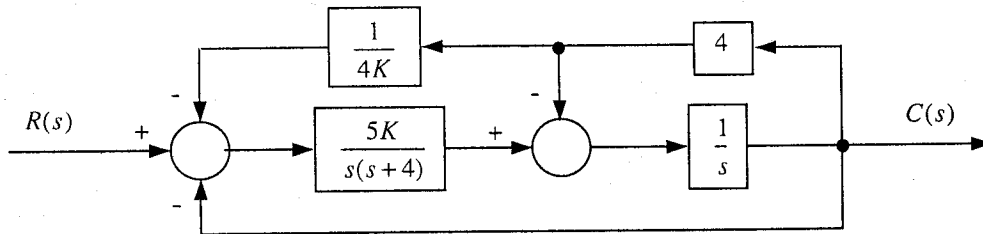

Fig.4a
4. (a) By a process of systematic block diagram reduction, show that the system in Fig.4a has the transfer function $\frac{C(s)}{R(s)} = \frac{5K}{s^3 + 8s^2 + 16s + 5 + 5K}$. [8 marks]